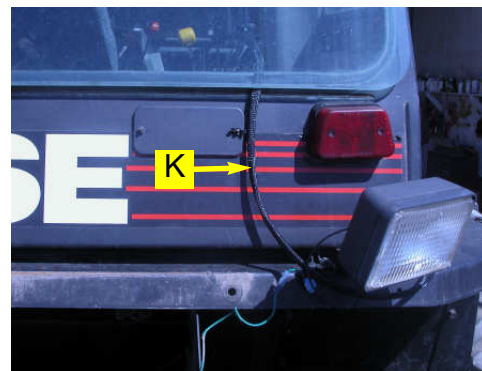

Figure 7b. Routed valve control cable.
- b. Route the valve control cable (K) into the cab through the access hole near the rear window. (Figure 7b.)